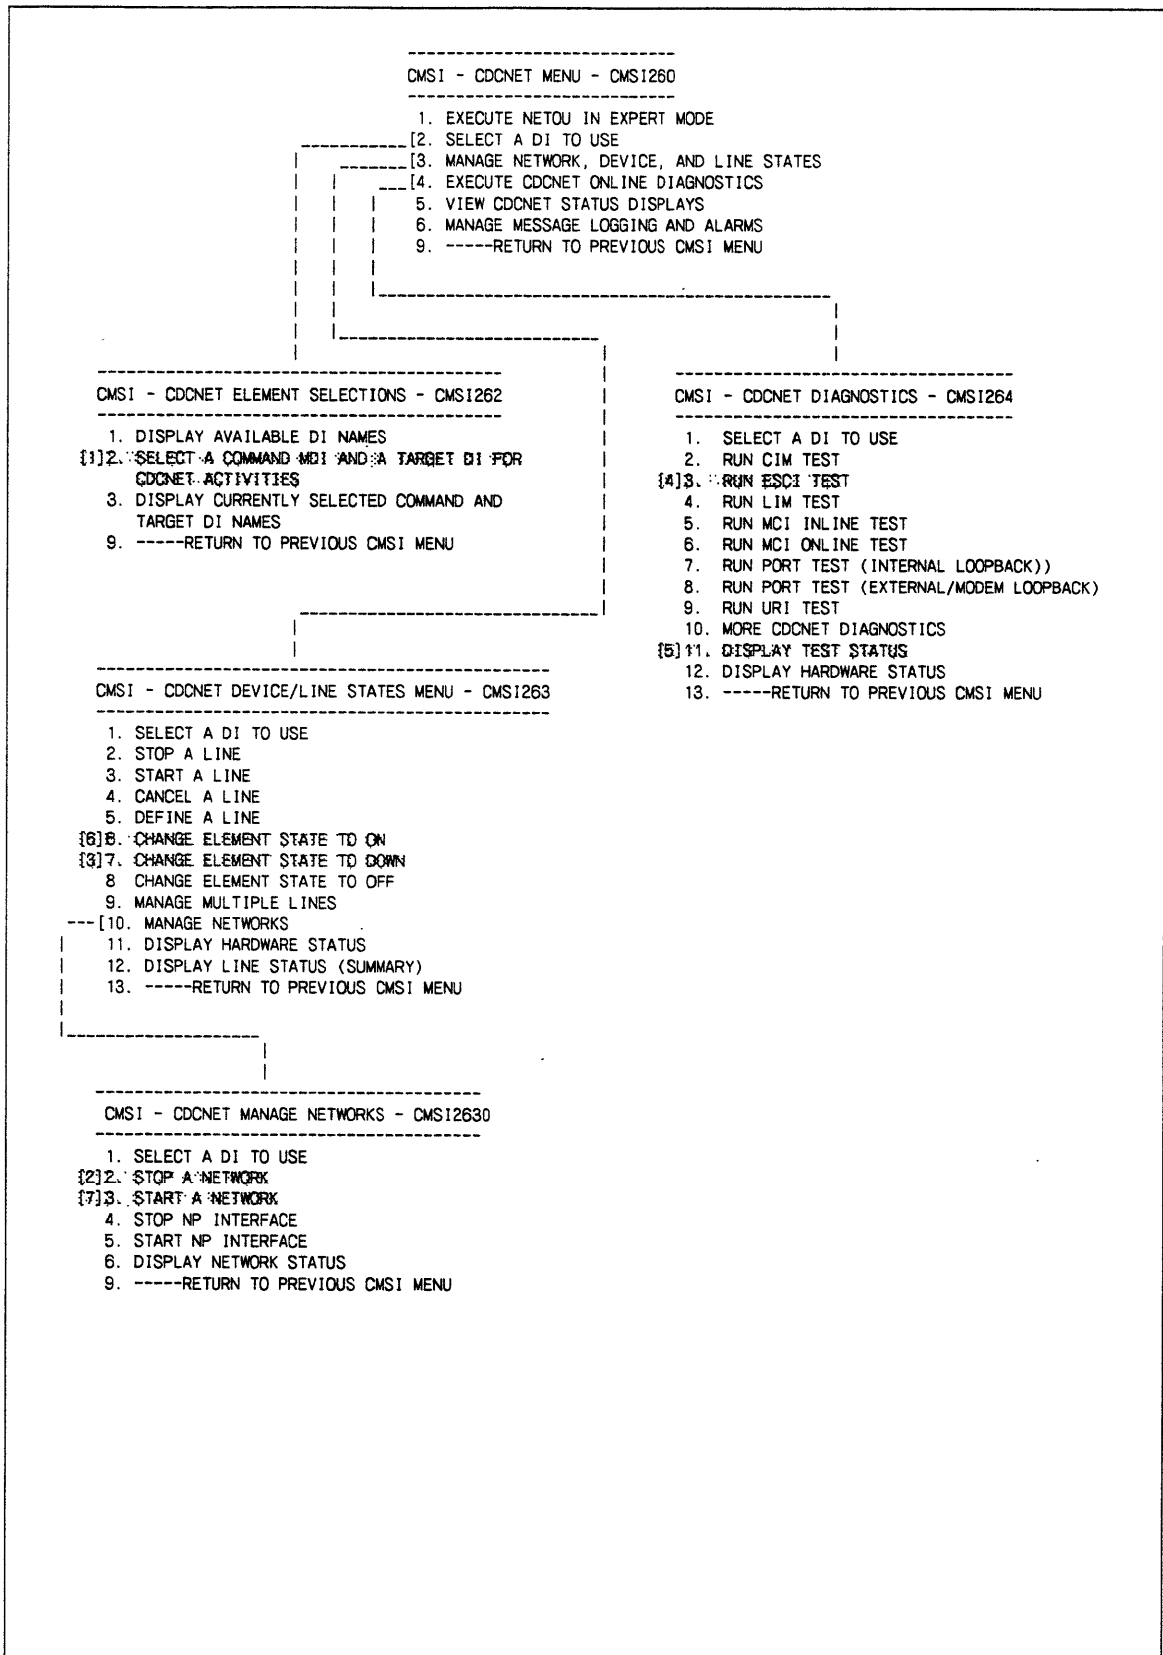

Figure 6-19. CMSI Menus for ESCI Online Test
The following shows the sequence of actions necessary to run the ESCI online test. Each menu choice is shown on figure 6-19 and described below. The purpose of this topic is to serve as a quick reference for the most frequently used menu selections. See chapter 4 for a complete description of CMSI. Familiarize yourself with the ESCI test notes and procedure given earlier in this topic before running the test.
1. Numbers in this column correspond to the bracketed numbers (for example, [1]) on figure 6-19.